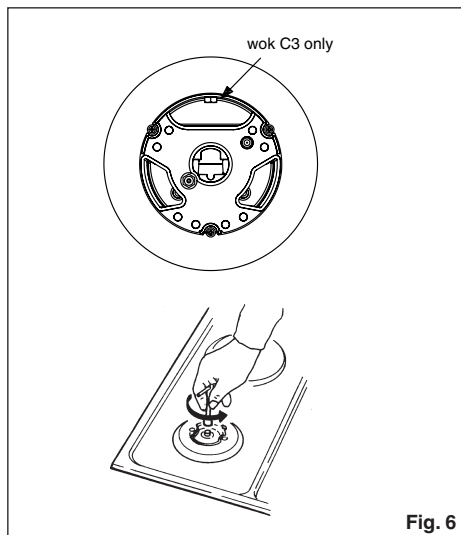

Fig. 6
Adaptation to various types of gas (Fig. 6)
- to adjust to the minimum, use a screwdriver on the screw placed on the tap (Fig. 6) after turning the tap to its minimum position. For LPG (butane/propane) screw tight